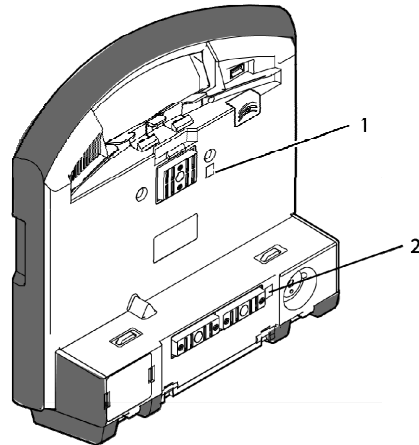

Fig. 10-4 Monitoring unit, infrared interfaces
6. Wipe the infrared interfaces of the monitoring unit with a cloth (see Fig. 10-4, item 1 and item 2).